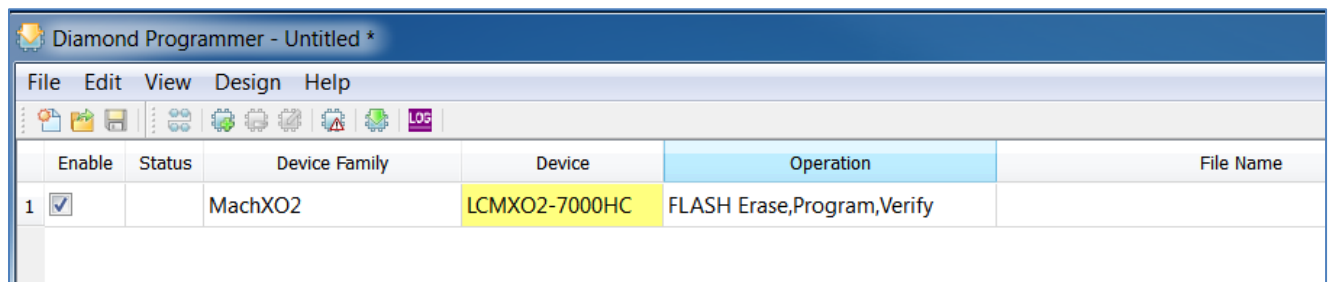

Figure 6.13. ASC Socket – Operation
2. Double click in the box under **Operation** as shown in Figure 6.13.